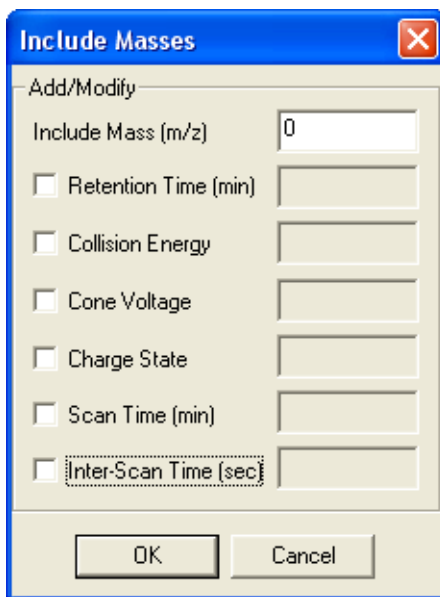

Figure 5-20 Include Masses Dialog Box
1. On the Survey Scan Function Editor's Include page, click Add to open the Include Masses dialog box (Figure 5-20).